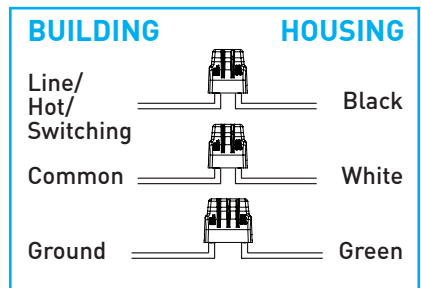

Fig.15
Feed structured building wires through knockout, secure to corresponding connector "**Fig.15**" and tighten strain relief.
**Quick connectors** provided for line / mains voltage connection: black (hot), white (common) and green (ground) "**Fig.15**".